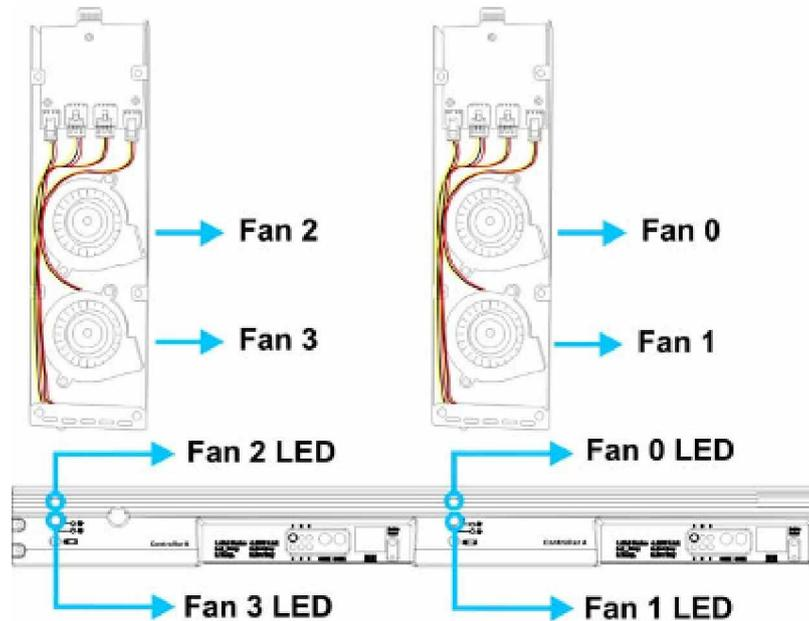

Figure 3-5: Cooling Module LEDs and Cooling Fan Locations
The SINGLE CTRLR models have 1 BBU status LED. (See **Figure 3-5**)
2. If a new battery module has been charged for over twelve (12) hours and this event is issued, you may remove and re-install the battery module. An empty battery module may take more than 12 hours to be fully charged. There is a timer embedded with the charger, doing so can reset the timer. Charging will resume automatically.
Each cooling module has two (2) red LEDs on the module. Each LED corresponds to a single blower in the cooling module. (See **Figure 3-5**) When the LED is on, it indicates the fan has failed. When the LED is off, it indicates the fan is functioning properly.